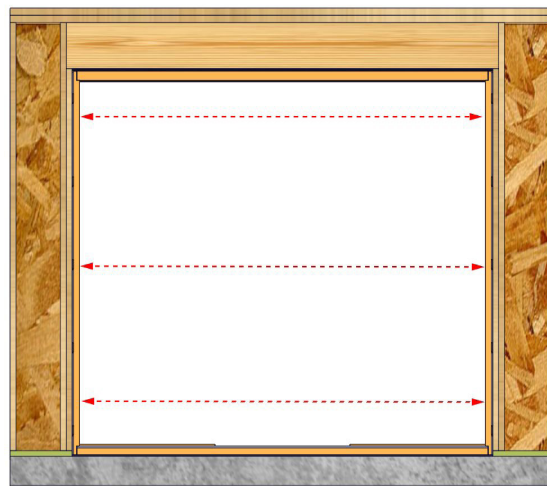

Fig. 17
5. Measure at head jamb, center of unit, and sill to make sure all dimensions are equal. If they are not, you will need to adjust the shims accordingly. (Fig. 17)